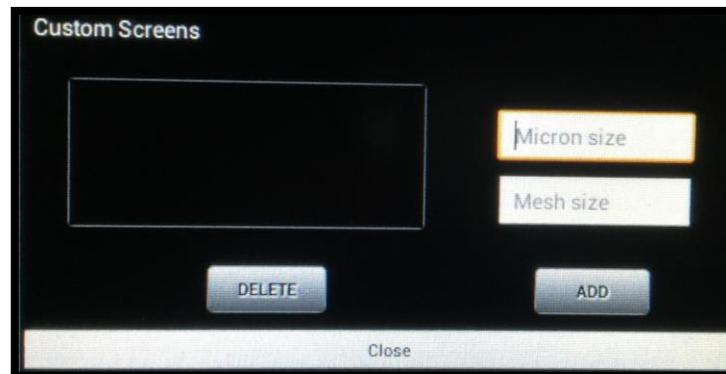

Figure 29
- d. Press the **Close** button to close out of the “Custom Screens” window and return to the main “SCREEN” display. (See Figure 29)